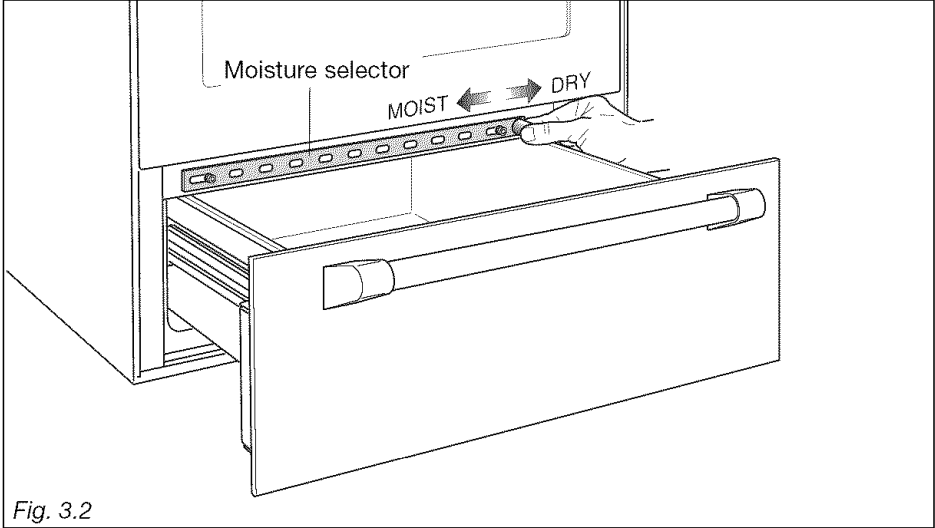

Fig. 3.2
- Push and turn the control knob to a temperature setting: (LO), (HI) or between (LO) and (HI) position.
- Slide the Moisture selector to a Moist or Dry position. Intermediate positions can be setted (fig. 3.2) (see the “MOISTURE SELECTOR” chapter)
MOISTURE SELECTOR (fig. 3.2)